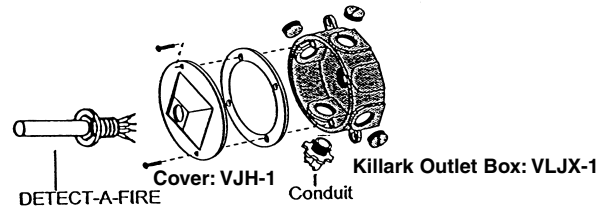

**Figure 3:
3. Connect system wiring to detector per Figure 3 and applicable electrical codes.